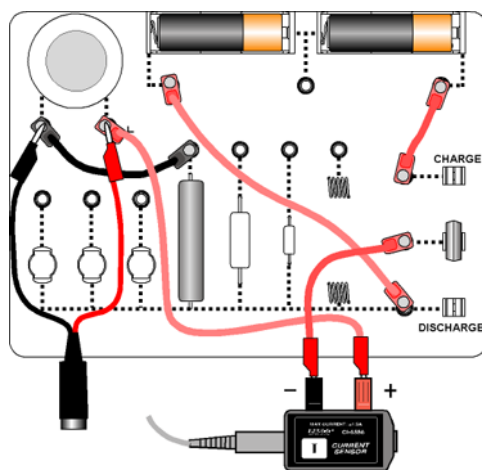

Figure 3
1. For PASPORT, arrange the Voltage-Current Sensor, the two batteries, and the patch cords as in Figure 3 above.